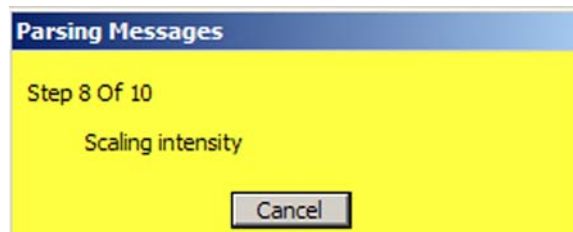

Figure 113: Parsing Messages window
2. Monitor the Parser screen for progress messages and error codes. To stop the parsing, click **Cancel** in the Parsing Messages window (Figure 113).